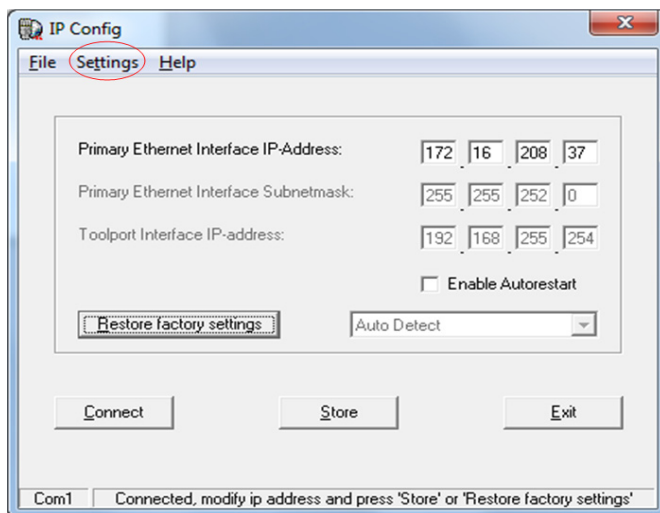

Figure 21. IPConfig Dialog Box
4. In the IP Config dialog box (Figure 21), select:
- a. If the connection procedure passes, the current IP settings (the IP Ethernet address and its associated Subnet mask) will be displayed in the IP Config dialog box shown in Figure 21 (settings not shown in figure).